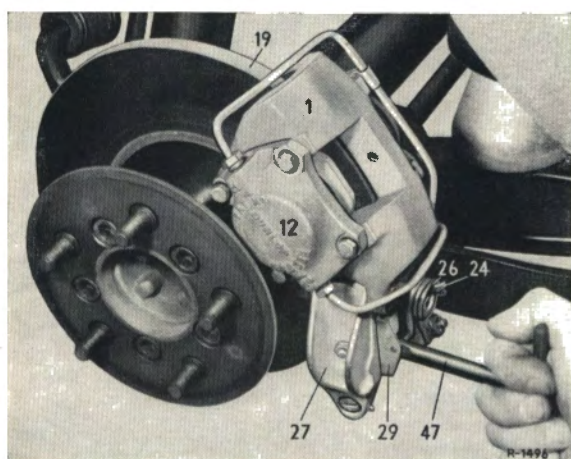

Fig. 42-10/15
5. Back out the wing nut (8) on the relay lever (5) as far as it will go (Fig. 42-10/16).
6. Install new friction pads (29) in the lining carriers (27a) and (27b) and tighten the hexagon nuts of the cheese head screws (Fig. 42-10/14).